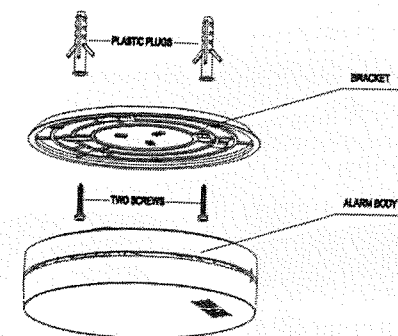

Figure 3
4. Screw the mounting bracket to the ceiling or the wall (Refer to figure 3).